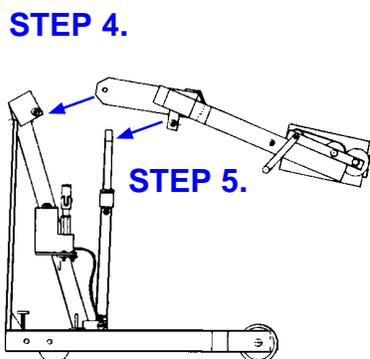

FIGURE 3.
**Step #4:** Lift overhead assembly into position. A drift pin can help align the holes. Insert a greased clevis pin (Part 138-P) through mast cap and boom. Install a 5/8" washer and 3/16" Sel-Lok pin in the end of the clevis pin. See figure 3.